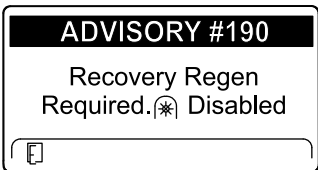

Figure 40
- Recovery regeneration required—power takeoff disabled ADVISORY #190 (Figure 40)